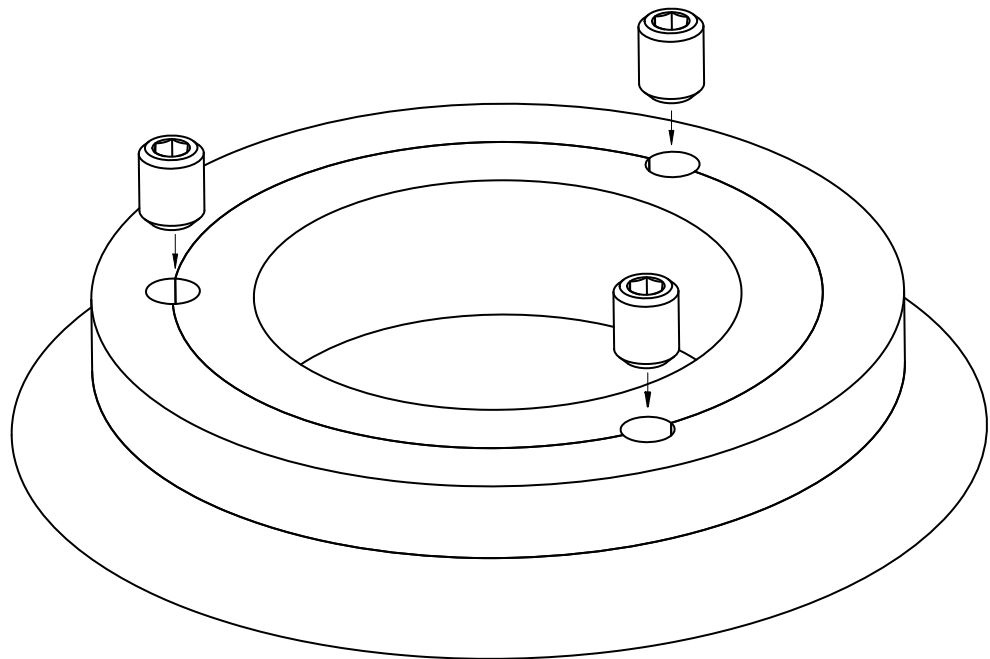

Figure 11: Locking the wear ring.
- 4 Both wear rings then have to be secured. Drill 3 holes $\varnothing 5$ mm, 9 mm deep, right on the seam between impeller and wear ring c.q. pump casing and wear ring. Subsequently cut screw thread M6 (see figure 11).